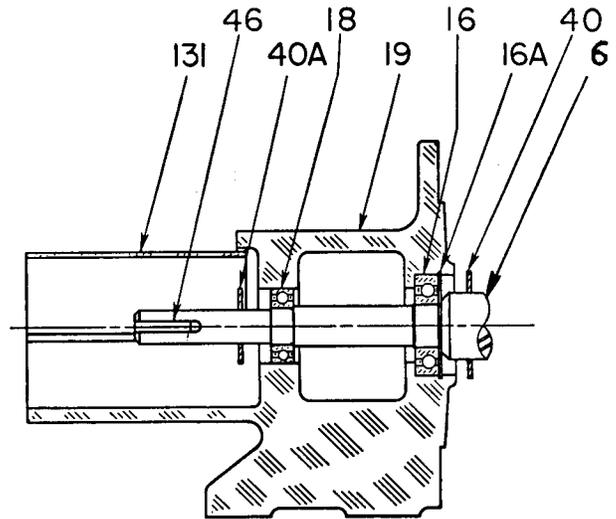

FIGURE 2. TYPE FO END SUCTION FRAME
Remove snap ring (16A) from groove in bearing bore on pump end of frame (19). Push shaft (6) with bearings from frame. Push in direction of pump end. If bearings (16, 18) are to be removed, support inner races and press shaft out. NOTE: Bearings are sealed type. There is no need for cleaning or lubrication. (See Figure 2.)
15. Remove casing ring (7) from casing only if damaged or worn to excess (refer to Repair).